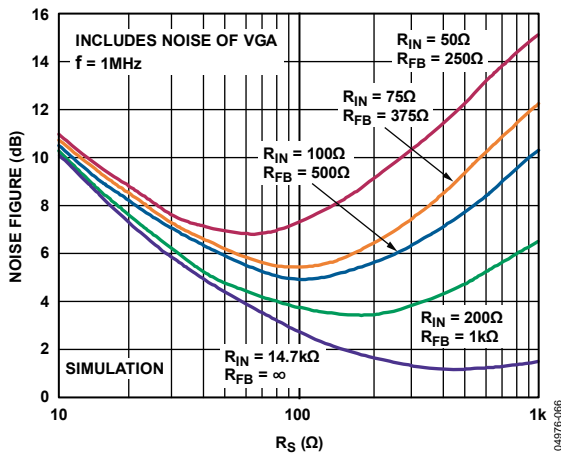

Figure 56. Simulated Noise Figure vs.  $R_s$  for Various Fixed Values of  $R_{IN}$ , Actively Matched
Figure 56 shows the simulated noise figure (NF) vs. source resistance, and various values of preamplifier  $R_{IN}$  from 50  $\Omega$ , to 14.7 k $\Omega$ , the value seen looking into the PIPx pins when  $R_{FB} = \infty$ . As shown in the figure, the minimum NF for  $R_{IN} = 50 \Omega$  is slightly less than 7 dB. Note that, for this preamplifier, the NF is optimized for the  $R_{IN}$  from 50  $\Omega$  to 200  $\Omega$ ; for  $R_{FB} = \infty$ , the minimum NF is at approximately 480  $\Omega$ . This optimum noise resistance can also be calculated by dividing the input referred voltage noise by the current noise.